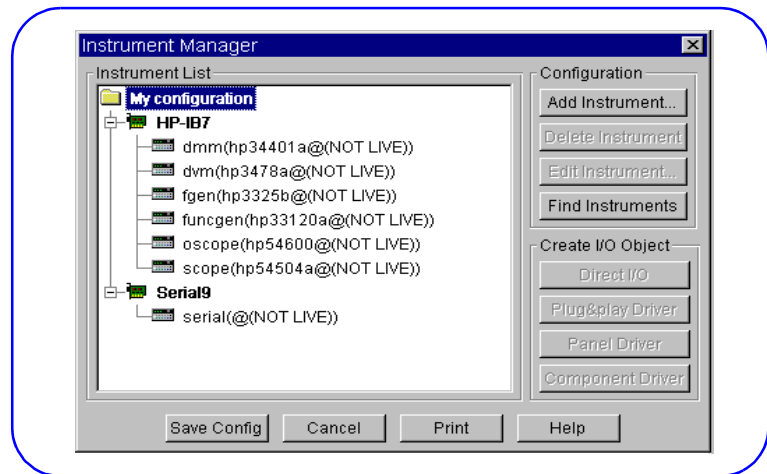

Figure 34. HP VEE Instrument Manager - Default Screen
- 1 To run this example, turn PC and mainframe power ON and open HP VEE. Then, select the *I/O/Instrument Manager..* menu item to display the default Instrument Manager screen (see Figure 34).